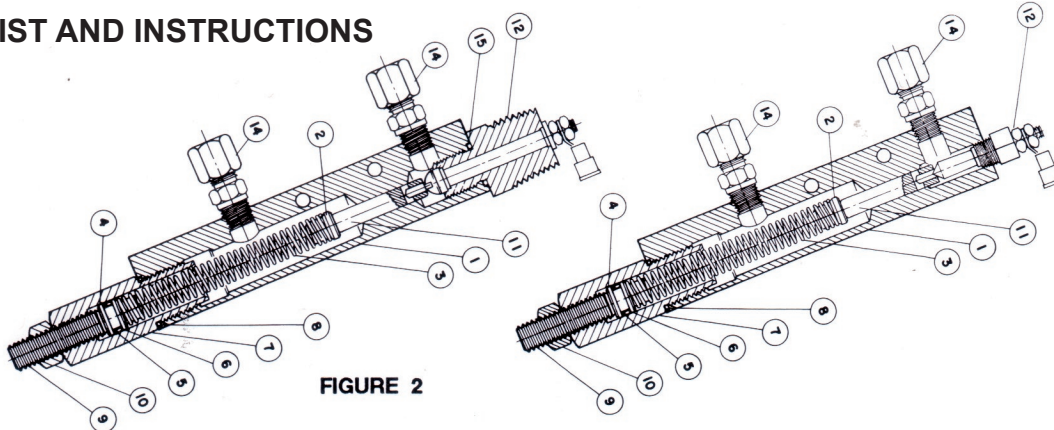

FIGURE 2
- Switch MUST be mounted either vertically (terminal end up) or at a minimum angle of 20 ° off horizontal with terminal end at the high point. This prevents water from accumulating around switch contact (see figure 2).